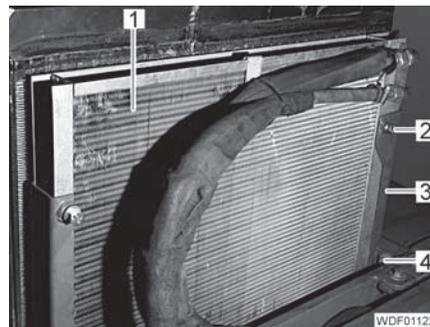

Fig. 409 Condenser attachment
- Unscrew the 2 screws (Fig. 409,2).
- Carefully lift the condenser (Fig. 409,1) up and out and place it to one side.
- Unscrew 2 screws (Fig. 409,4) on both sides.
- Remove the holder (Fig. 409,3).
- Screw in 2 screws (Fig. 409,4) with spring lock washers and disks on both sides and tighten.
- Carefully insert the condenser (Fig. 409,1) from above into the holder taking care not to bend or squeeze the lines.
- Tighten the 2 screws (Fig. 409,2).